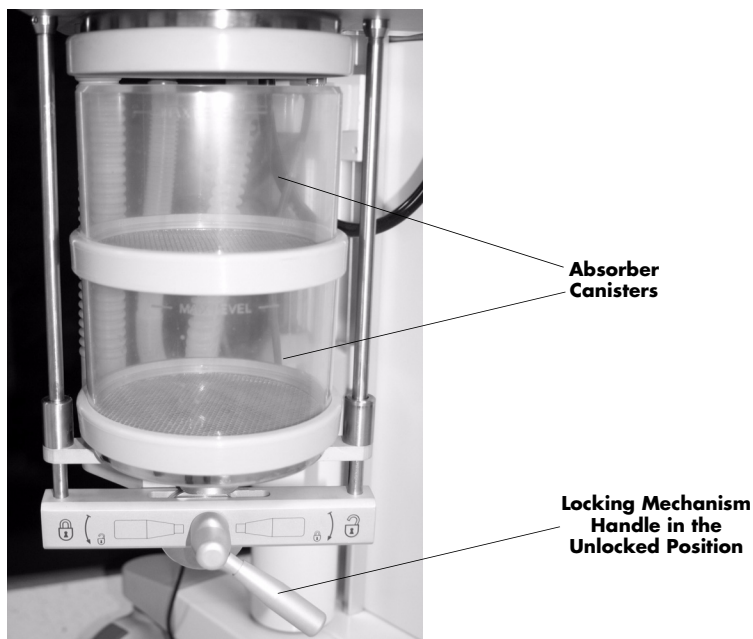

FIGURE 3-19 Absorber Canisters, Unlocked
3. Rotate the locking mechanism handle counterclockwise into the unlocked position as shown in FIGURE 3-19. This separates the absorber canisters from the top of the assembly. While noting the previous **WARNING**, remove the absorber canisters. Then remove the pre-pak or loose fill absorbent from the canisters. Dispose of the absorbent per the manufacturer's specification.